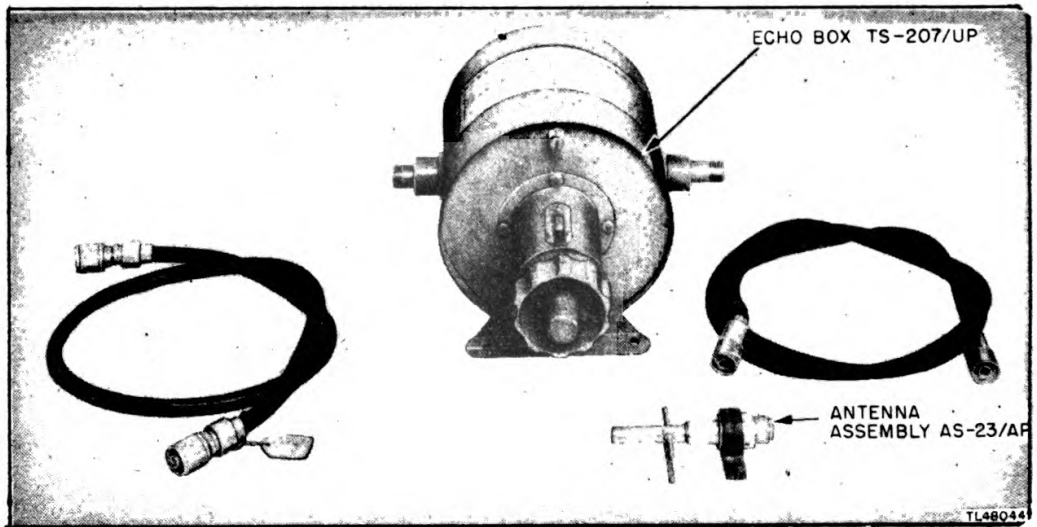

Figure 1. Echo Box TS-207/UP and associated parts.
**4. ECHO BOX TS-207/UP (fig. 1).**